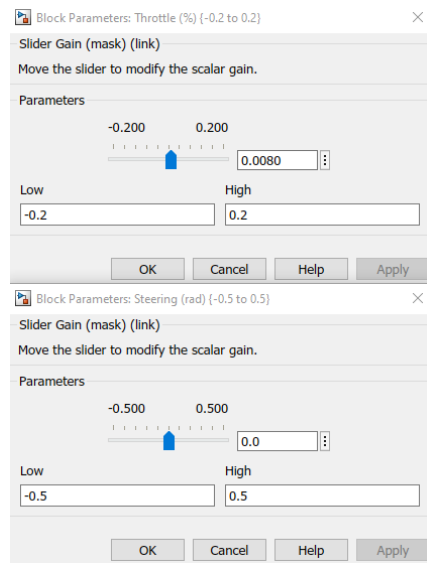

Figure 20: Basic IO throttle and steering command windows
**Task 1:** Keep the car on its base. Run the file and click on the Throttle and Steering blocks to send value to PWM 0 channel ( See top of Fig. 20 and generate a steering angle command (See bottom Fig. 20)